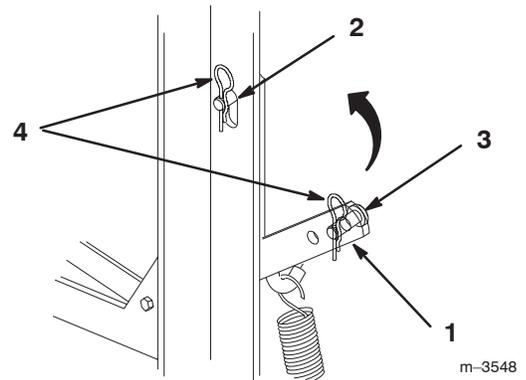

Figure 38
2. Remove hairpin cotter and clevis pin from idler arm (Fig. 38).
3. Pull up on the spring loaded idler arm, behind blower on lefthand side of unit, to relax pressure on blower belt (Fig. 38).